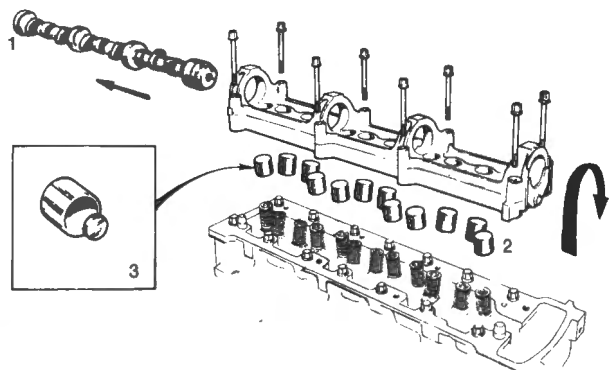

Fig. E-26
- 8 Remove the camshaft in the direction of arrow. Fig. E-26.
- 2 Lubricate the cam bearings and fit the camshaft in opposite direction to arrow. Fig. E-26.